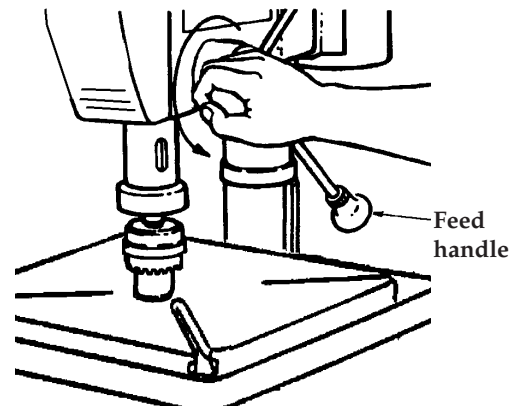

FIGURE 16
5. Turn the feed handles counterclockwise and force the chuck against the table until the chuck is secure.(Fig.16).